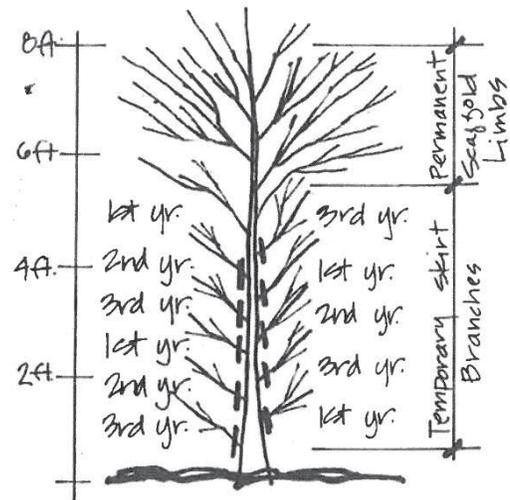

Figure 11 - Pruning Skirt Branches
- Remove one-third of the branches in the skirt. (The skirt is the group of branches between ground level and the permanent scaffold branches. These temporary branches feed the tree and speed the growth rate of the tree. See Fig. 11) Select the largest diameter of these to remove (the larger the branch, the more competition with the leader for nutrients). Leave the balance distributed up and down and around the trunk, and shorten by about 10% of their length, pruning to buds or laterals facing outward from the trunk. This step is essential to proper health and development of the tree.